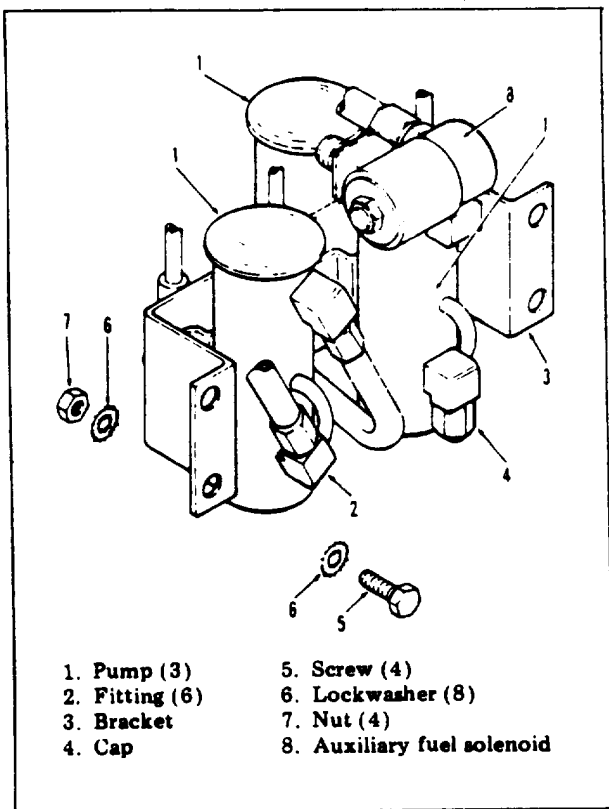

Figure 3-14. Fuel Pump Assembly
(3) Fuel Pump Assemblies (Three) (see figure 3-14). Inspect fuel pumps (1) for dents or other physical damage. Check for leaks especially around hose assembly fittings (2). Check that fuel pumps are securely attached to mounting bracket (3) and that mounting bracket is securely attached to bracket support on skid-base. Inspect electrical leads to fuel pumps to see that wires and connectors are not broken, frayed, or damaged. Check that connectors are tightly connected. Check that cap (4) on auxiliary fuel pump inlet is securely in place when unit is not being run from auxiliary fuel supply.